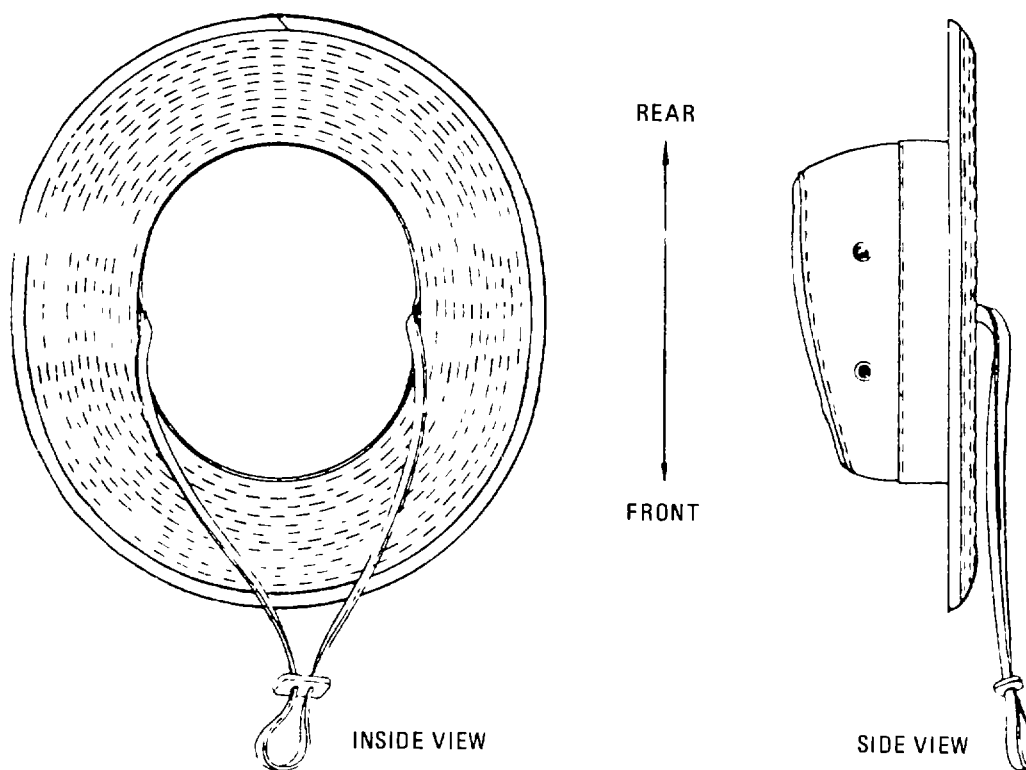

Figure 8-6. Hat, camouflage pattern: desert
- f. Hat, Desert Camouflage Pattern. Cotton and Nylon twill cloth, camouflage printed, MIL-H-44105, NSN 8415-01-102-6776 through 8415-01-102-6788. This hat is made from cotton and nylon twill cloth, has a low slope crown with a semirigid interlined brim, and adjustable chin strap and screened eyelets on each side of crown (fig 8-6).